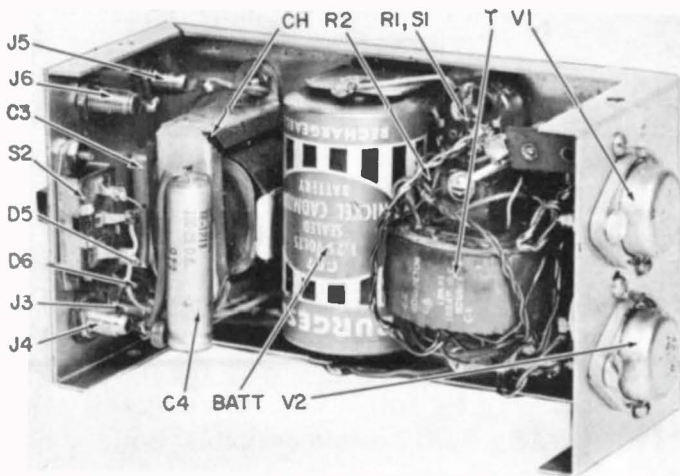

Fig. 446. The case looks crowded, but there is plenty of room for all the parts. Note the power transistors mounted on the side of the case.
An inside view of the power supply is shown in Fig. 446. The power transistors, V1 and V2, are mounted on the outside of the case. The choke (CH) and the transformer (T) are placed at right angles to each other to minimize the interaction of their magnetic fields. They are separated by the battery.